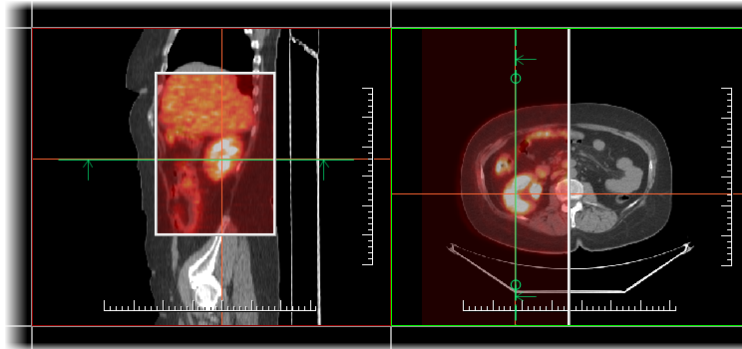

Figure 318 – Fusion images between CT and PET series
- Vertical** - the view is divided with a vertical line; the image from the fusion series is displayed on the right (see Figure 318, right).
- Rectangle** - the image from the overlaying series is displayed inside the rectangle (see Figure 318, left).